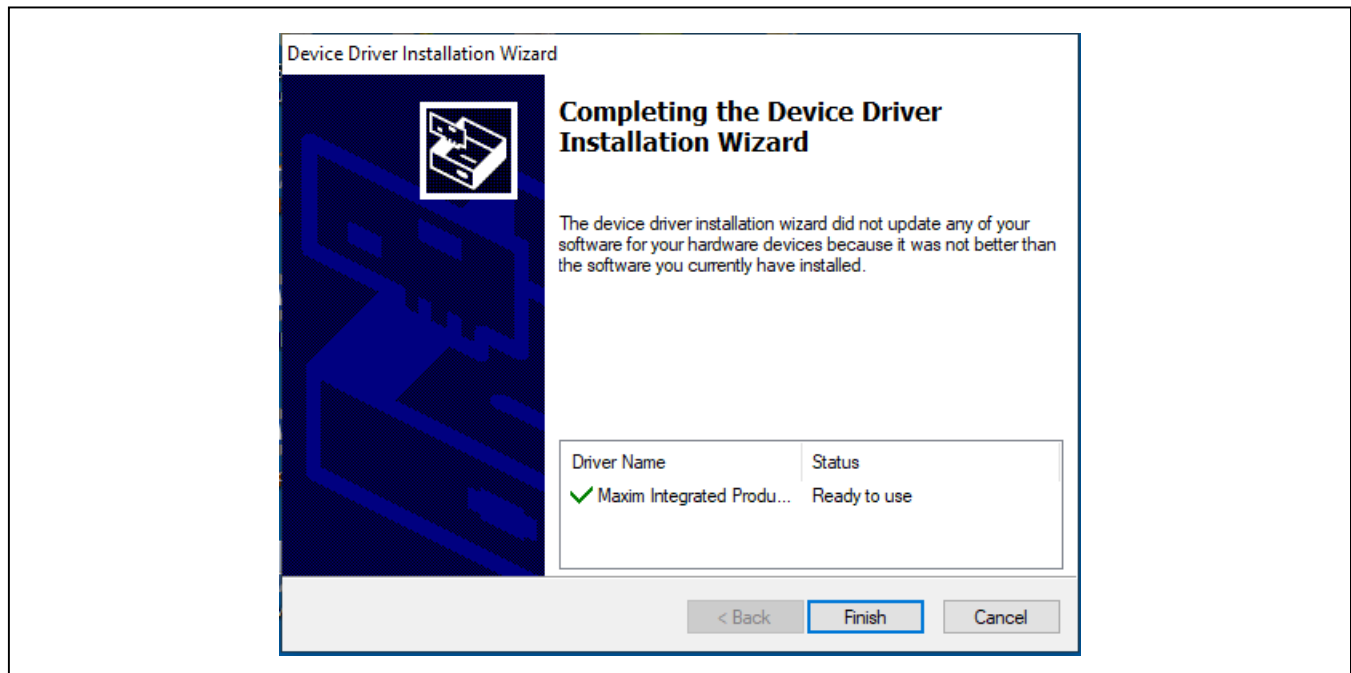

Figure 4. Finish DS9481P-300# Drivers Installation
- 5) On the Completing the Device Driver Installation Wizard screen, click **Finish** to complete the installation of the EV kit software and required drivers (Figure 4).